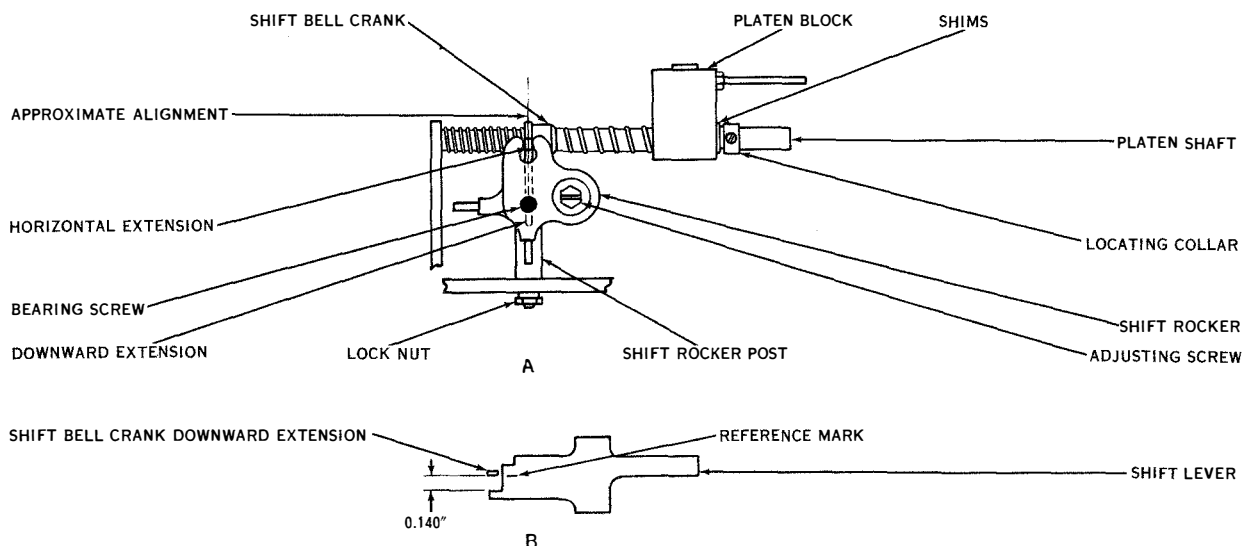

Figure 7-61. Platen Shift Rocker Post and Shift Bell Crank
(70) SHIFT ROCKER POST. (See figure 7-61.)—The sides of the shift rocker post should be parallel to the platen shaft. To adjust, loosen the shift rocker post lock nut and rotate the post. Hold the post in position and tighten the lock nut.
(72) SHIFT BELL CRANK. (See figure 7-61.)—The horizontal extension of the shift bell crank should line up approximately with the vertical center line through the shift rocker bearing screw. To check, position the platen shaft so that the front edge of the downward extension of the shift bell crank is opposite the mark on top of the shift lever. To adjust, bend the horizontal extension of the shift bell crank.
(73) SHIFT BELL CRANK GUIDE. (See figures 7-61 and 7-62.)—The platen assembly should shift freely in the shift bell crank guide slot and the printing face on the platen should be approximately horizontal. To adjust, position the shift bell crank guide. Hold the guide in place and tighten the mounting screw.